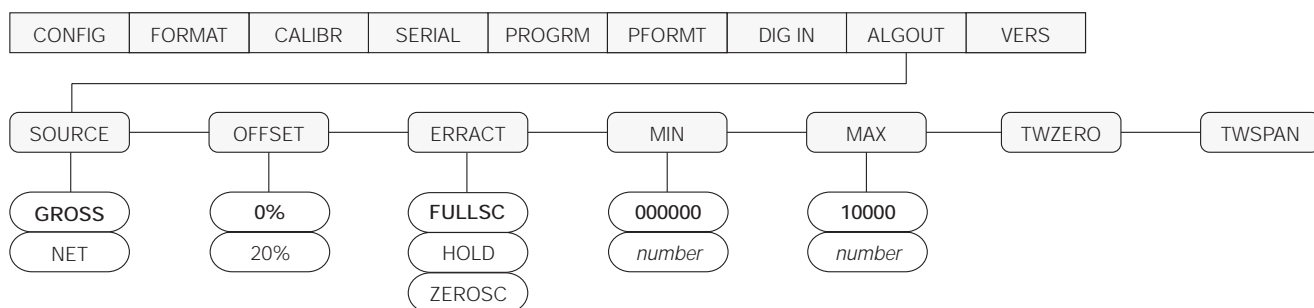

Figure 9. Analog Output Menu
- Enter setup mode and go to the ALGOUT menu (see Figure 9).